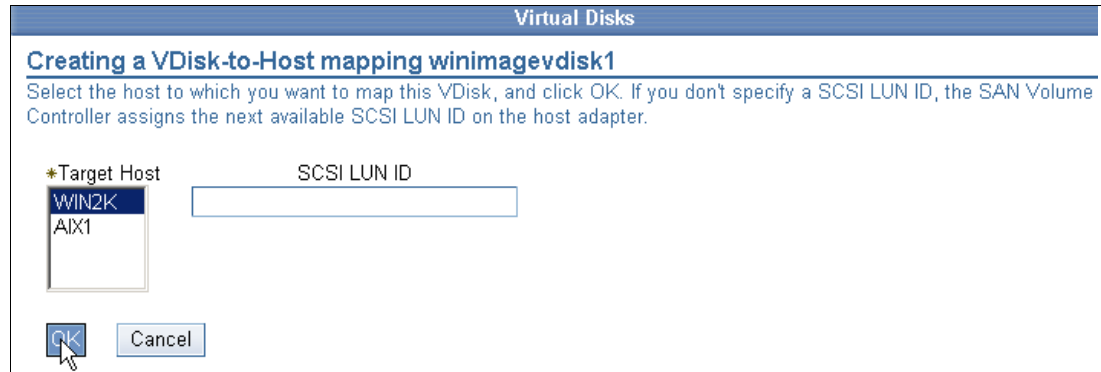

Figure 12-30 Creating a vDisk-to-Host mapping winimagevDisk1
8. Select the target host as shown in Figure 12-30 and click **OK**.